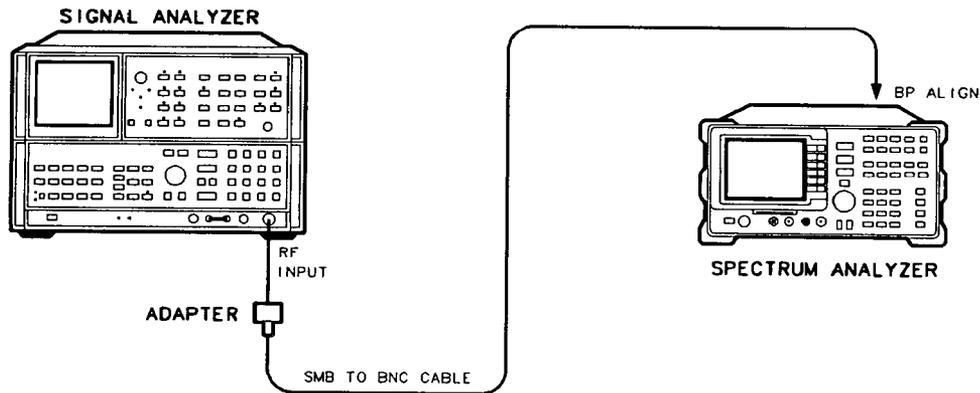

Figure 2-20. Second Converter Bandpass Adjustment Setup
7. Connect the HP 8566A/B to the BP ALIGN port on the A5 Second Converter of the analyzer using the test cable. See Figure 2-20.